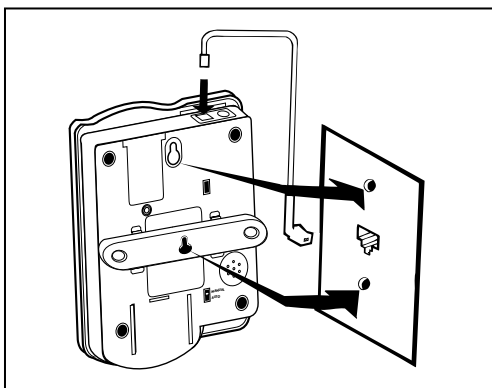

Figure 6- Wall mounting installation
3. Using the short modular cord, mount the phone as shown in figure 6.